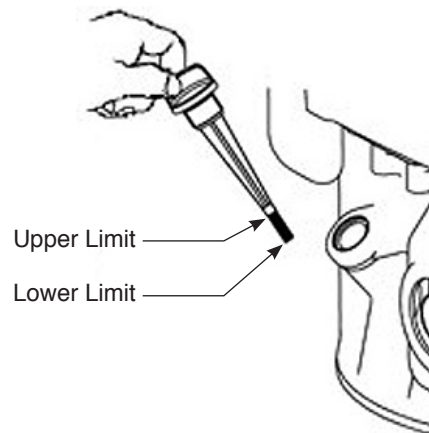

Figure 3
4. When oil level is full, the oil will be at upper limit on dip stick. (See Figure 3)
5. If the oil level is near or below the lower limit mark on the dipstick (See Figure 3), add oil slowly and recheck until oil level reaches upper limit of dipstick. **DO NOT OVER FILL.**